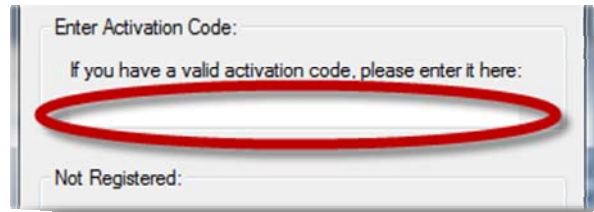

Figure 3-10: The Activation window.
6. Paste—or manually enter—the Activation code into the SOLV™ *Activation* window (see Figure 3-10).